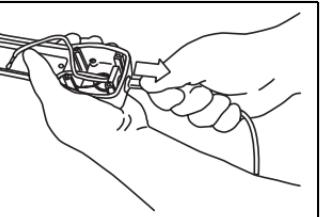

Figure 5. Adjusting the Strain Relief
- From the outside of the housing, pull on the strain relief until it snaps firmly into place (Figure 5).